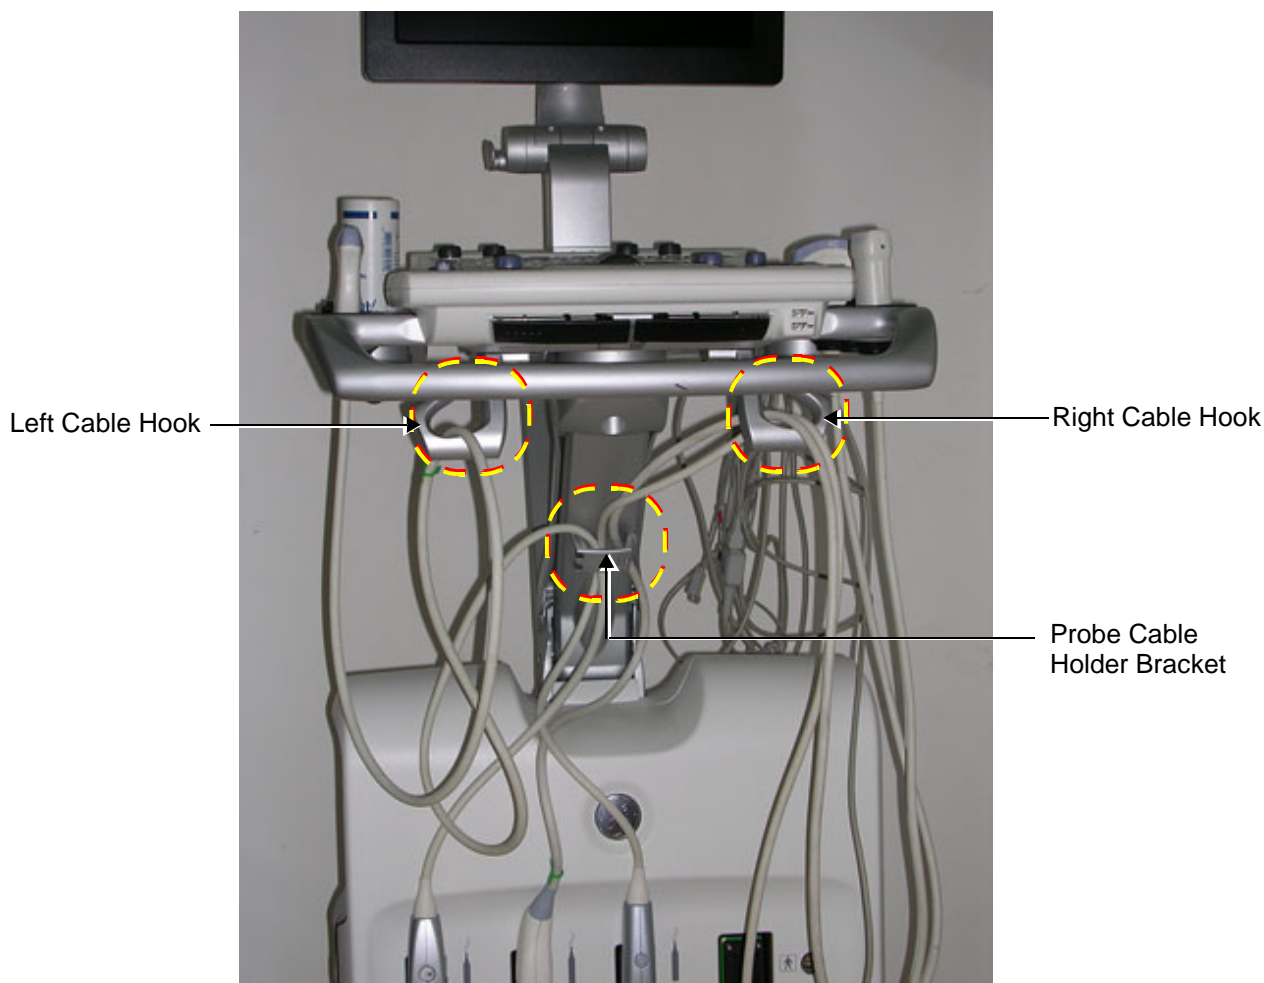

Figure 8-203 Probe Cables Routed Correctly through Probe Cable Holder Bracket and Cable Hooks
When routing the probe cables, it is important to lead the cables upwards from the system's connecting ports as shown in Figure 8-203. Always ensure that the cables do not drag on the floor and are adequately secured by the Probe Cable Holder bracket and *Left* and *Right* Cable Hooks.
- 1.) Lead the right probe cables upwards and thread them via the left and right cable holders as shown in Figure 8-203.
- 3.) Lead the cables via the right cable hook (Figure 8-203) and make one or two loops to shorten the cable.